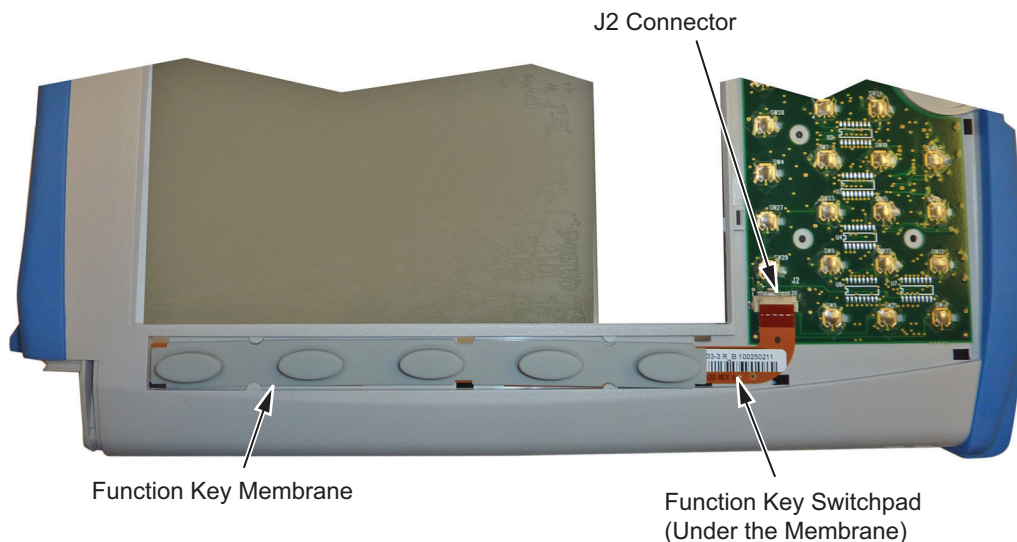

Figure 5-11. Keypad PCB
During reassembly confirm that the socket connector on the Main PCB aligns with the connector pin on the Keypad PCB shown in Figure 5-11 on page 5-10.
- Disconnect the function key flexible switch pad from J2 of the keypad PCB by carefully lifting the locking tab on connector J2 to release the flexible switch pad (Figure 5-11).